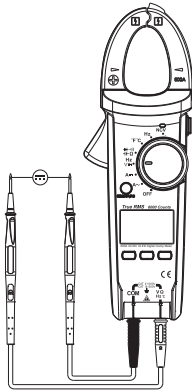

Fig. 5
**4.Measurement of DC voltage (shown as Fig. 5)**